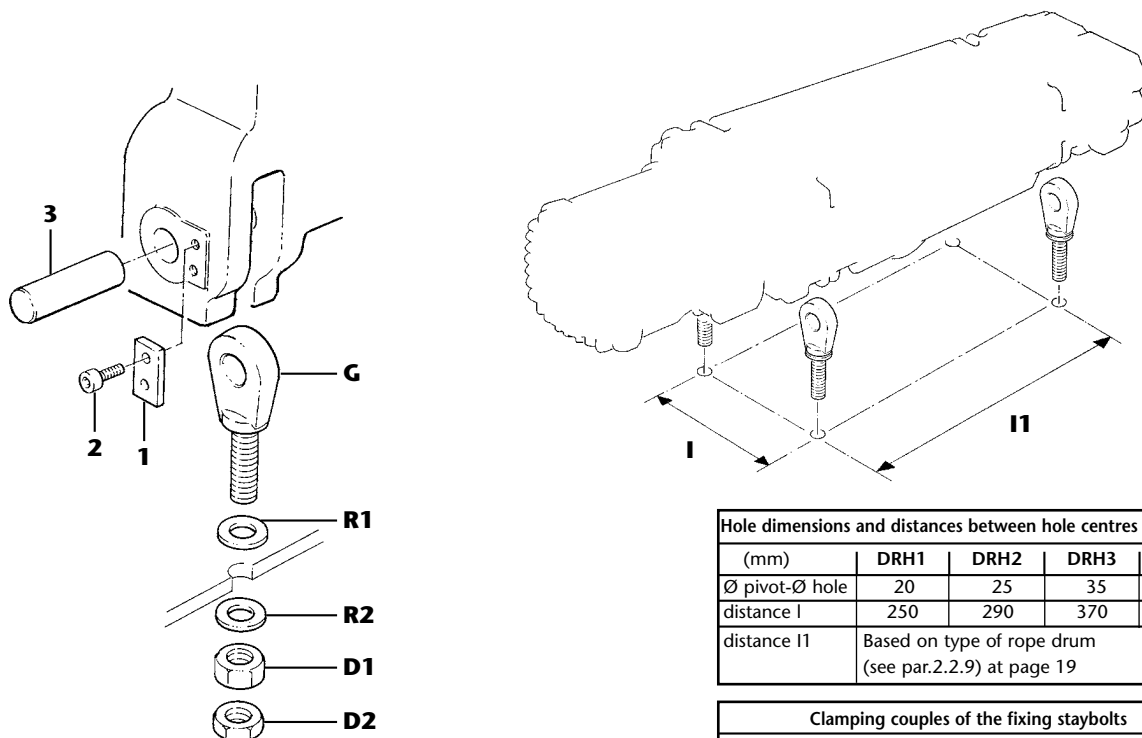

fig. 28
The assembly of the threaded spigot eyebolts in the lower part of the carrying casing of the DRH hoist (fig. 28):
The fixing of the hoist to a supporting surface involves inserting the threaded spigots in their respective holes, the dimensions and wheel base of which must correspond to the heights shown in the table (fig. 28) respecting the following procedure:
- Once the spigots are inserted in their respective holes and the hoist is set down, insert the washer -R2-, screw tight the wide nut -D1- and, finally, having tightened it by applying the couples shown in the table (fig. 28), screw tight the medium- sized safety lock nut -D2-.
10. Once the spigots are inserted in the holes and the hoist is set down, insert the washer -R2-, screw tight the wide nut -D1- and finally, having tightened it by applying the couples shown in the table (fig. 28), screw tight the medium-sized safety lock nut -D2-.